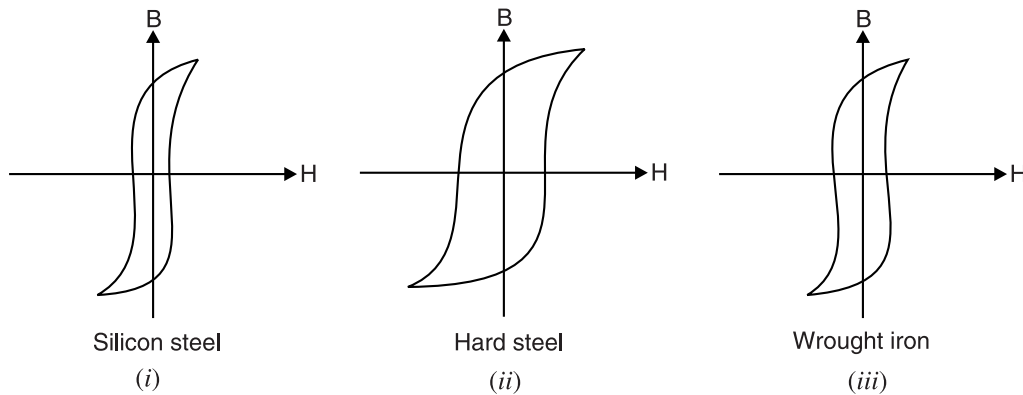

Fig. 8.40
The hysteresis loop for silicon steel has a very small area [See Fig. 8.40 (i)]. For this reason, silicon steel is widely used for making transformer cores and rotating machines which are subjected to rapid reversals of magnetisation.
- (ii) The hysteresis loop for hard steel [See Fig. 8.40 (ii)] indicates that this material has high retentivity and coercivity. Therefore, hard steel is quite suitable for making permanent magnets. But due to the large area of the loop, there is greater hysteresis loss. For this reason, hard steel is not suitable for the construction of electrical machines.
- (iii) The hysteresis loop for wrought iron [See Fig. 8.40 (iii)] shows that this material has fairly good residual magnetism and coercivity. Hence, it is suitable for making cores of electromagnets.